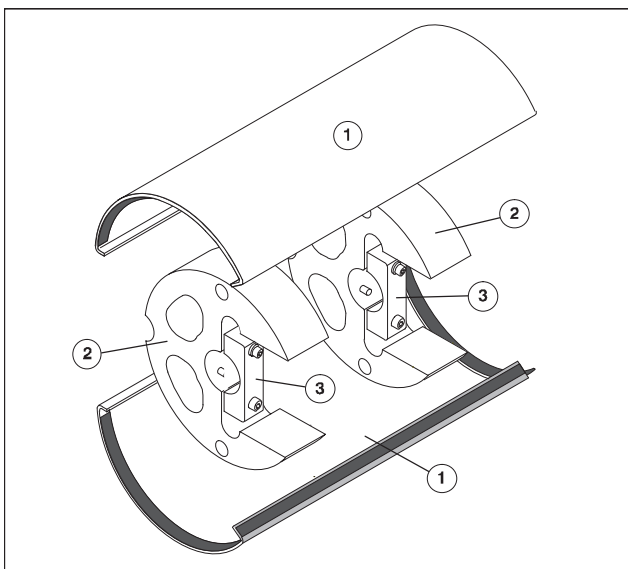

Fig. 14 Super Blue delivery drum, single parts
- 2 sheet-metal jackets (Fig. 14/1),
- 2 supports (Fig. 14/2) with retaining bridges (Fig. 14/3).